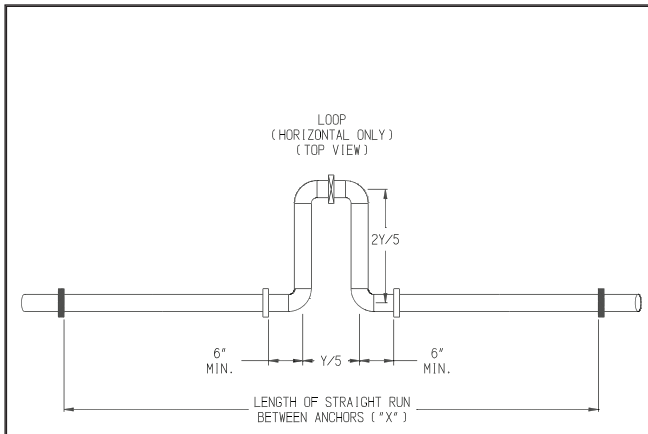
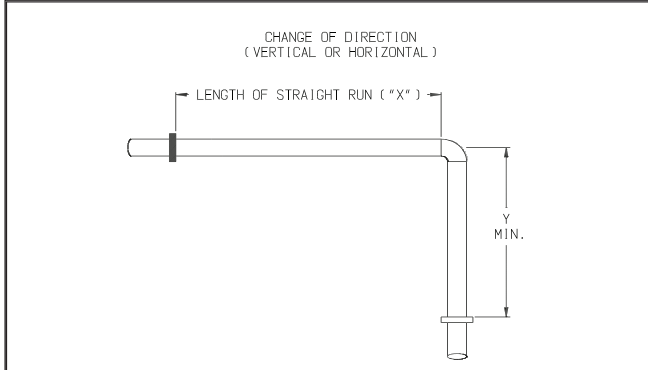

FIGURE 7.3a
FIGURE 7.3c
- For CPVC/PVC pipe design the vent system to allow 3/8” of thermal expansion for every 10ft of CPVC/PVC pipe. The boiler will always act as an anchor to one end of the vent system. If at all possible, select and install hangers and wall thimbles so that the vent system can expand towards the terminal. When a straight run of pipe exceeds 20ft and must be restrained at both ends, an offset or expansion loop must be provided (Figures 7.3a, 7.3b). When a straight horizontal run of pipe exceeds 20ft and is restrained at one end with an elbow at the other, avoid putting a hanger or guide less than “Y” inches from the elbow in the adjoining straight section (Figure 7.3c). Thermal expansion fittings are not permitted.